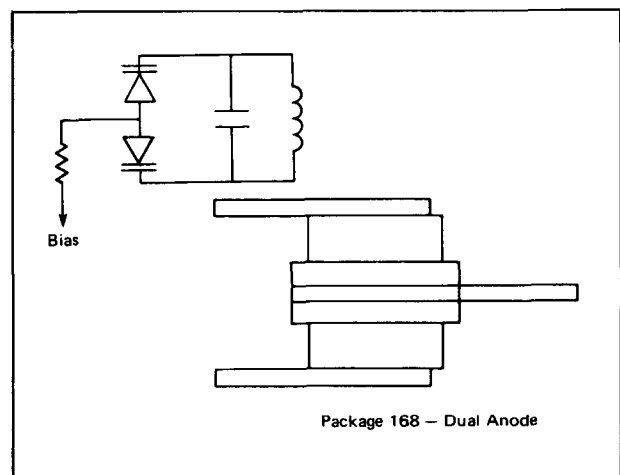

Figure 8-1. Back to Back Diode Package
- In the section on distortion we discussed back-to-back diodes, to reduce distortion products. Figure 8-1 sketches such a circuit and the corresponding diode package.